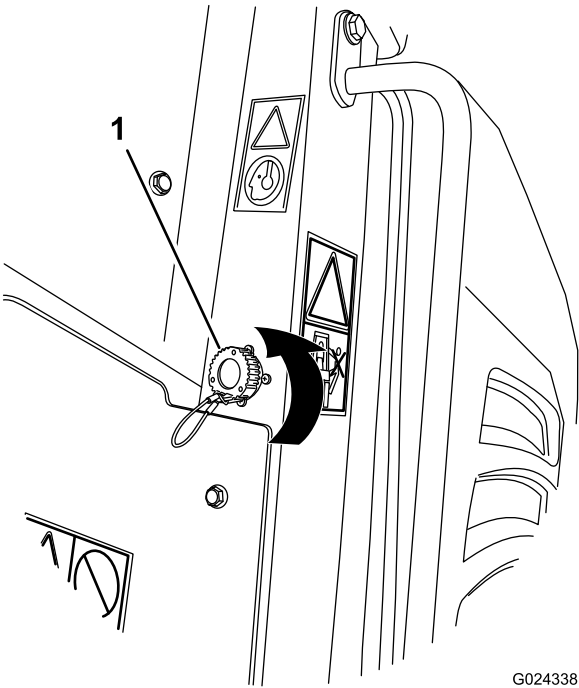
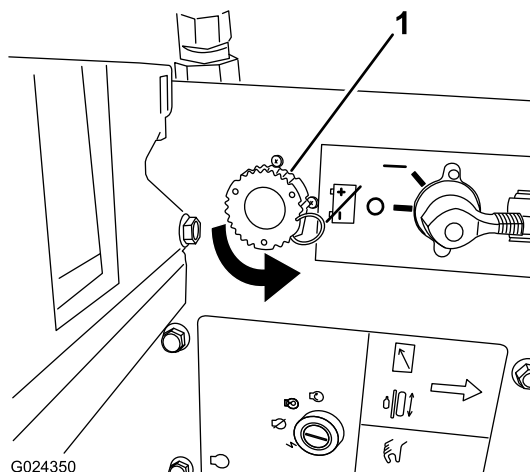
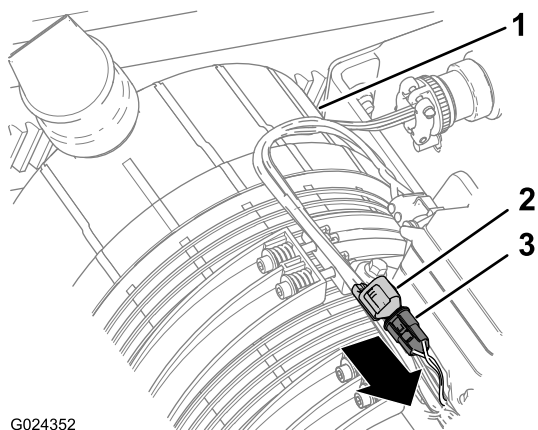

Figure 3
Figure 4
Figure 5
4. At the machine, remove the dust cap from the diagnostic-port connector for the machine (Figure 3, Figure 4, or Figure 5).